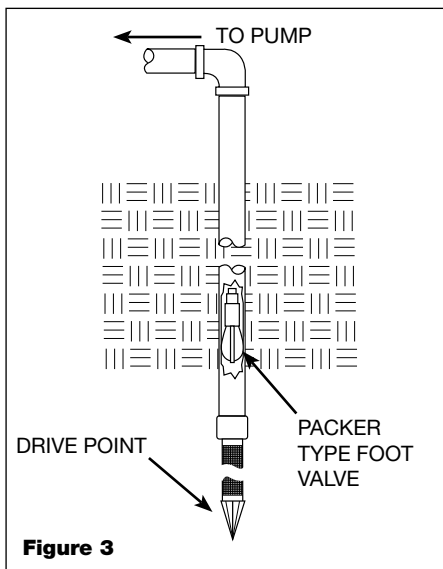

Figure 3
**NOTE:** A packer-type foot valve can be installed in the well (See Figure 3). This type of foot valve allows the well pipe to be filled with water when priming and makes the inlet pipe much easier to test for leaks. Follow the manufacturer's instructions when installing the packer-type foot valve.